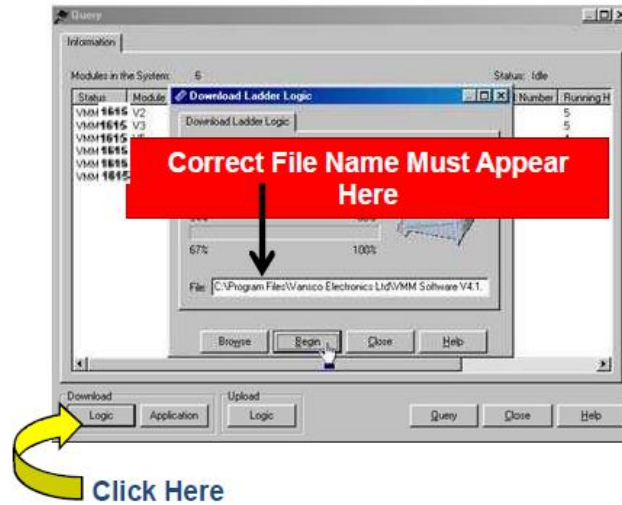

Figure 2: Downloading Logic File
9. Ensure the file path seen in Figure 2 below reflects the same file path as where you saved the VMM file. Ensure the correct file name and revision appear at the end of the file path. Contact your RPSM for the latest VMM program revision.